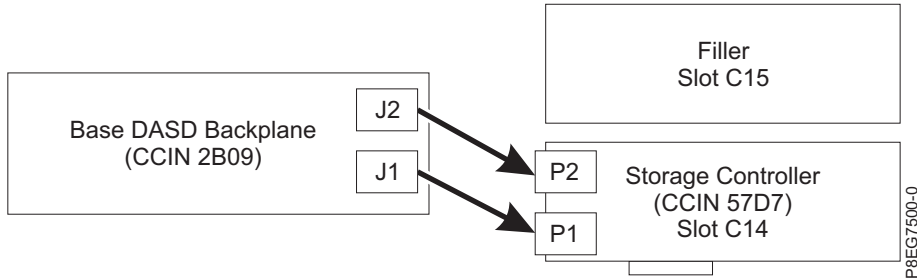

Figure 54. Reconnecting the SAS cable in a base-storage configuration
- If you have one PCIe3 x8 SAS RAID internal adapter (CCIN 57D7) in slot P1-C14 (base-storage feature), one SAS cable connects the lower disk drive backplane connector (J1) to the P1 connector on the adapter. A SAS cable connects the upper disk drive backplane connector (J2) to the P2 connector on the same adapter. See Figure 54.